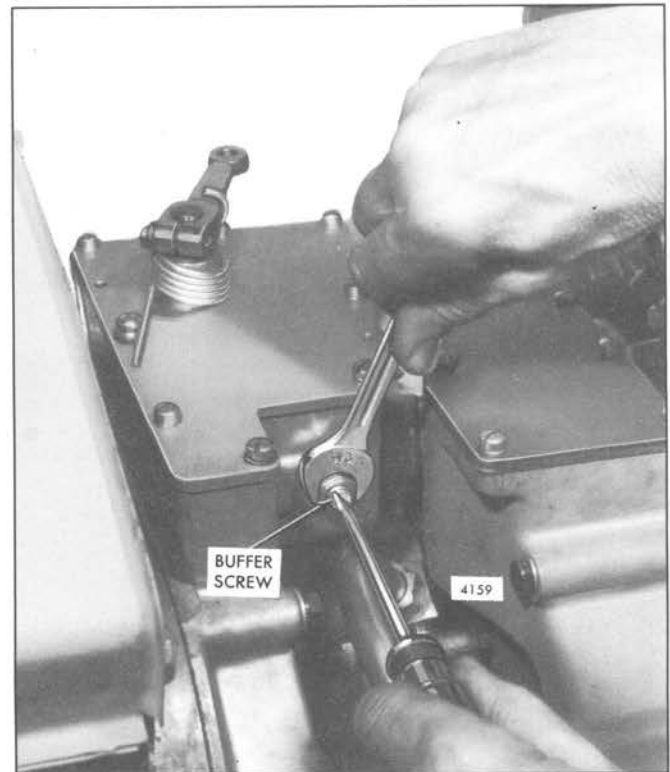

Fig. 8 - Adjusting Buffer Screw
1. With the engine running at normal operating temperature, turn the buffer screw IN so it contacts the differential lever as lightly as possible and still eliminates engine roll (Fig. 8). Do not raise the idle speed more than 15 RPM with the buffer screw.